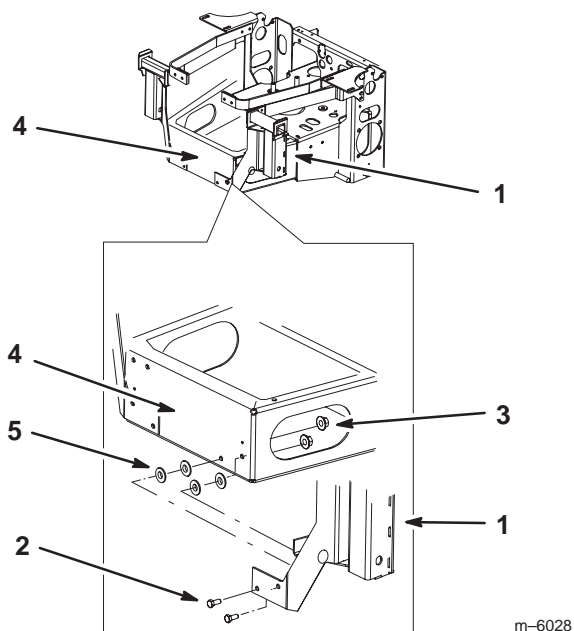

Figure 8
6. Loosely, install the bagger mounting bracket to the bottom rear bumper with 2 bolts (5/16 x 3/4 in.), 4 flat washers (5/16 in.), and 2 flange nuts (5/16 in.) (Fig. 8).